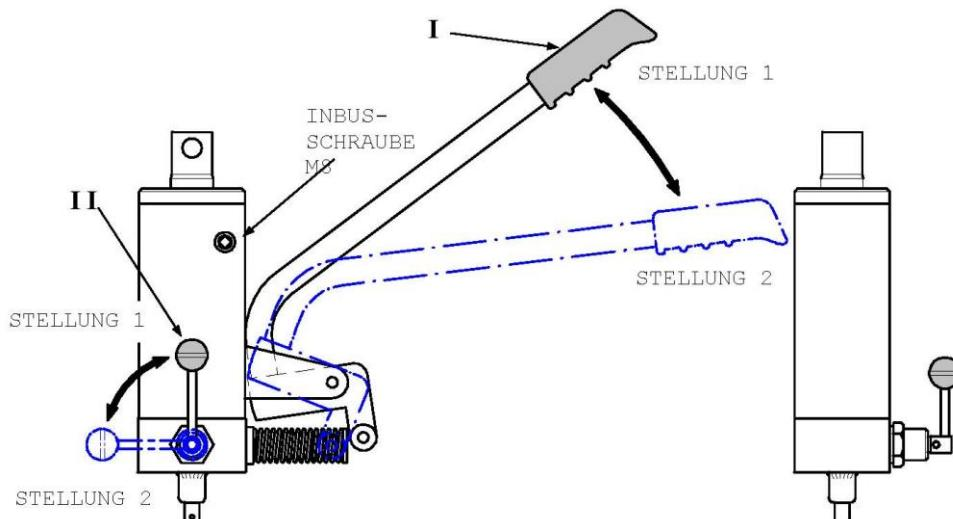

Abb. 2
- Loosen the **M8 Allen screw** located on the cylinder (see Fig. 2) and refill oil through this opening until it overflows.